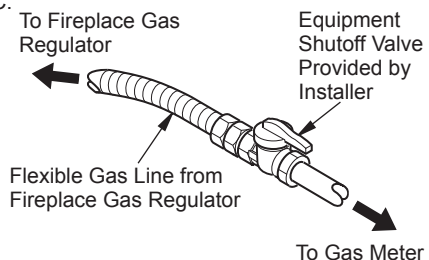

Figure 23 - Attaching Flexible Gas Lines Together
NOTICE: Most building codes do not permit concealed gas connections. A flexible gas line is provided to allow accessibility from the fireplace (see Figure 23). The flexible gas supply line connection to the equipment shutoff valve should be accessible.
2. Apply pipe joint sealant lightly to male threads of gas connector attached to flexible gas line (see Figure 23). Connect flexible gas line to flexible gas line attached to gas valve of fireplace (see Figure 23).